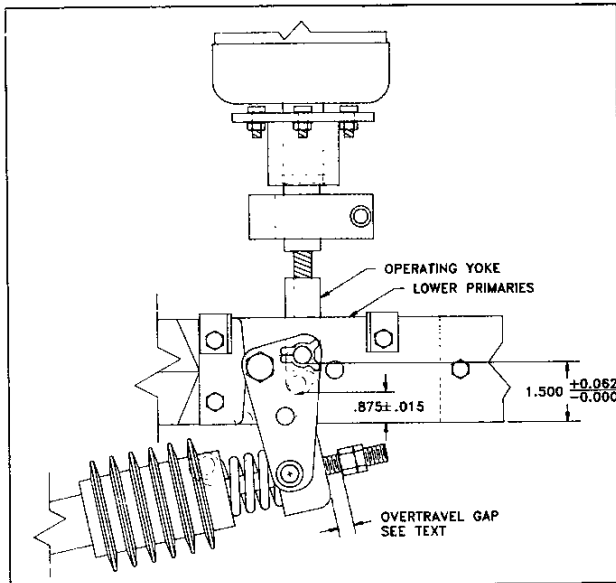

Figure 2. Operating Yoke Adjustments
operating yoke should be 1.500" + 0.06" - 0.000" above the bottom of the lower main primary disconnect bars. See Figure 2.
- d. As explained in the description of the mechanism operation, when the breaker is closed a gap will exist between the contact loading spring yoke and the nut on the push rod stud, Figure 2. With a new vacuum interrupter, this gap will be about 1/2 inch. As the contacts erode, the gap will reduce to about 1/8 inch.
(3) Primary Resistance Values
- Unscrew and remove the operating yoke at the lower end of the vacuum interrupter (Figure 2).